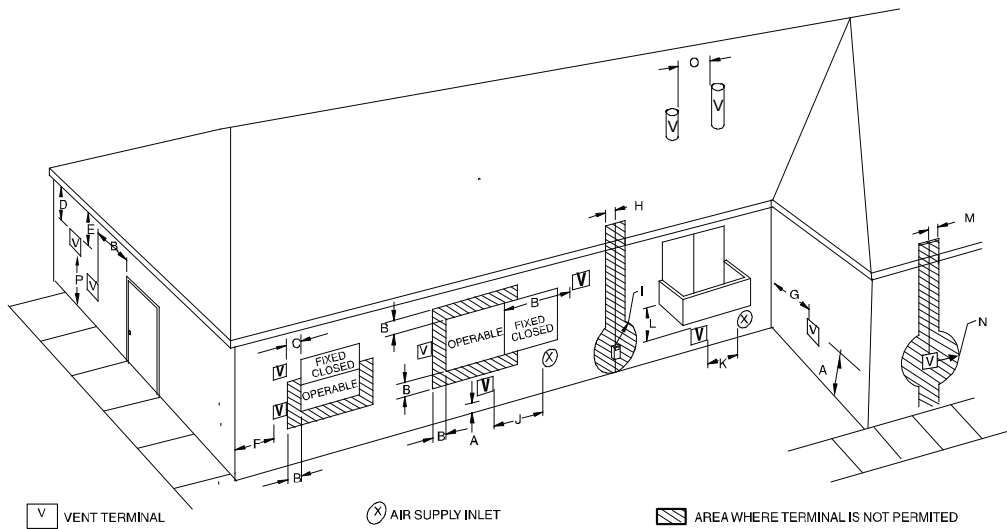
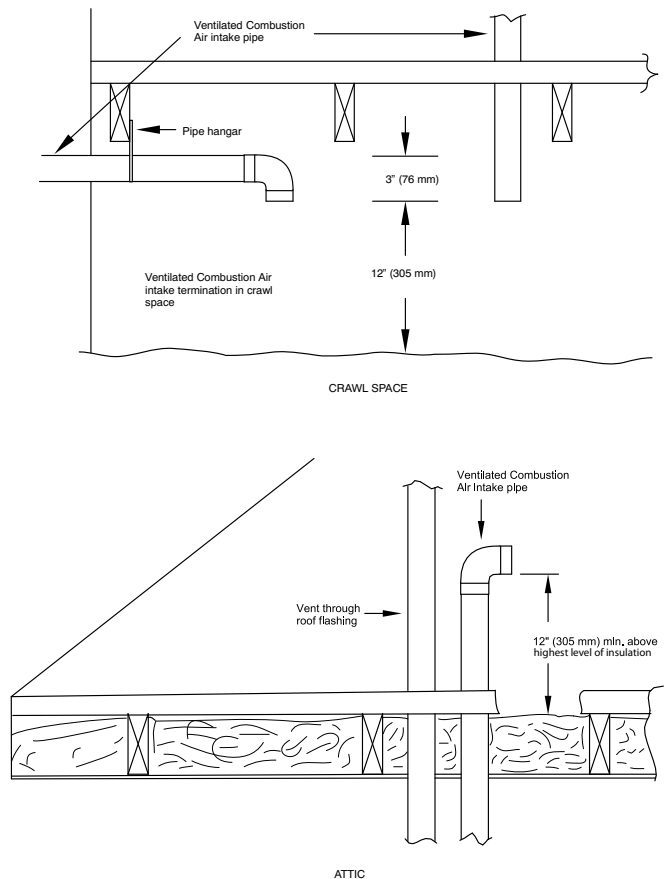

Fig. 42 – Ventilated Combustion Air and Non-Direct Vent Termination Clearance
Fig. 47 – Vent Terminations for Ventiladed Combustion Air
In a ventilated combustion air option, the vent terminates and discharges the flue products directly to the outdoors similar to a direct vent system. See Fig. 42 for references to clearances required by National code authorities.
in the Air For Combustion and Ventilation Section. Do not use an abandoned chimney to supply outside air to the furnace. See Fig. 42 for references to vent clearances required by National code authorities.
For vent termination clearance, references to National codes are shown in Fig. 41 for Direct Vent/2-Pipe system and Fig. 42 for Ventilated Combustion Air/Non-direct Vent/1-Pipe system. For exterior termination arrangements, refer to Fig. 39 for Direct Vent/2-Pipe system and Fig. 40 for Ventilated Combustion Air/Non-Direct/1-Pipe system. Contact Local code authorities for other requirements to and/or exemptions from the National codes shown in the figures.
1. Comply with all clearance requirements stated in Fig. 41 or Fig. 42 per application.
The vent pipe for a Ventilated Combustion Air System must terminate outdoors. See Fig. 42 for references to vent clearances required by National code authorities. Allowable vent terminations are shown in Fig. 40. The combustion air pipe terminates in a well-ventilated attic or crawl space. Follow the clearances as shown in Fig. 47.
The vent pipe for a Non Direct Vent (1-pipe) system must terminate outdoors. See Fig. 42 for references to vent clearances required by National Code authorities. Allowable vent terminations are shown in Fig. 40.